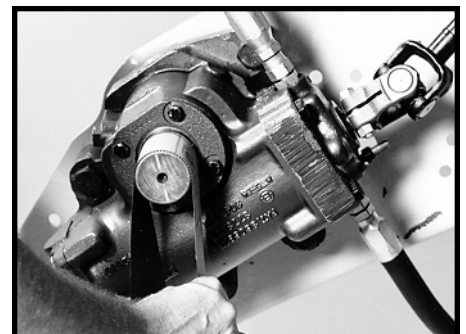

Figure 8
- 1.3 Clean the sector shaft (50) with a fine grade of emery paper. Be sure to remove any paint. SEE FIGURE 8.